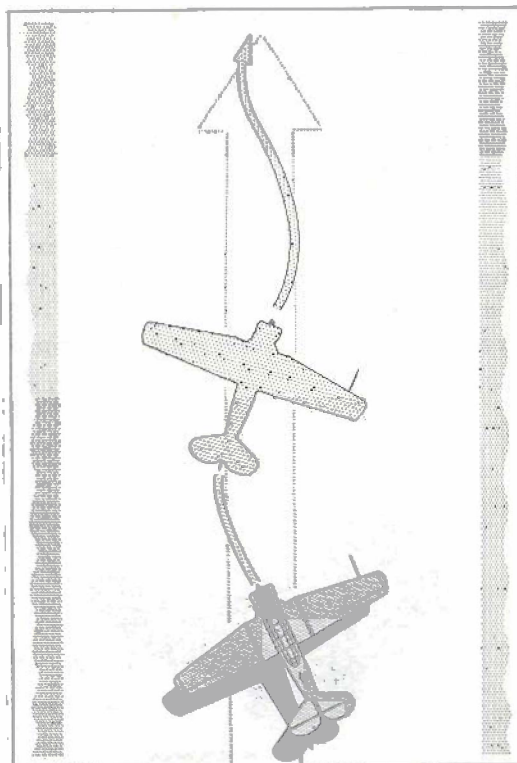

Figure 3:"S"-Turning
(2) If an abrupt application of brakes is made, intentionally or otherwise, and the nose goes down, pull the control column straight back and open the throttle. Provided there is no danger of collision, you should release the brakes. If this action is taken in time, sufficient airflow should be produced to flow over the elevator and force the tail down. You should be particularly careful when taxiing over soft ground, since the aircraft can nose-over very easily.
(3) When you are ready to move out of the line, you will find that some throttle is needed to start the aircraft rolling. Once it is rolling, close the throttle fully and test the brakes, bringing the aircraft to a complete stop. If the brakes are working properly, you can continue to taxi out. Sometimes when taxiing out of the parking line, it is necessary to make a sharp turn to clear objects in front of the aircraft. Usually such turns are made with the tailwheel unlocked, using brakes and throttle in conjunction. A turn should be made, in any case, shortly after leaving the line, to clear the area ahead since it is unwise to taxi straight ahead for any appreciable distance.
(4) During a normal "S-turn", only rudder movement is used to steer the aircraft. Do not use brakes in an attempt to help the aircraft turn, since when the tailwheel is locked, damage can be caused to the steerable tailwheel assembly by individual brake application. When "S-turning", as shown in Figure 3, push one rudder pedal forward until the nose swings round, and the intended taxiing path is visible. As soon as you can see ahead, apply pressure to the opposite rudder pedal to